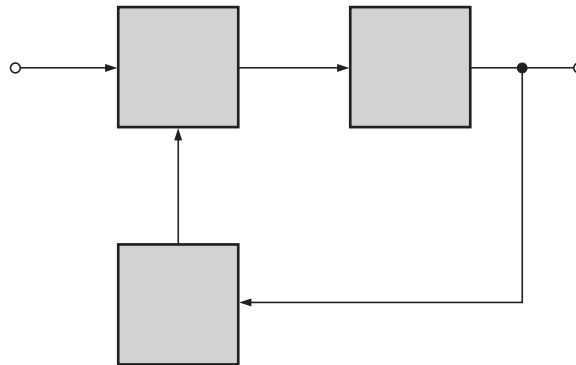

FIGURE 13–58
28. Label each block in the PLL diagram of Figure 13–58.